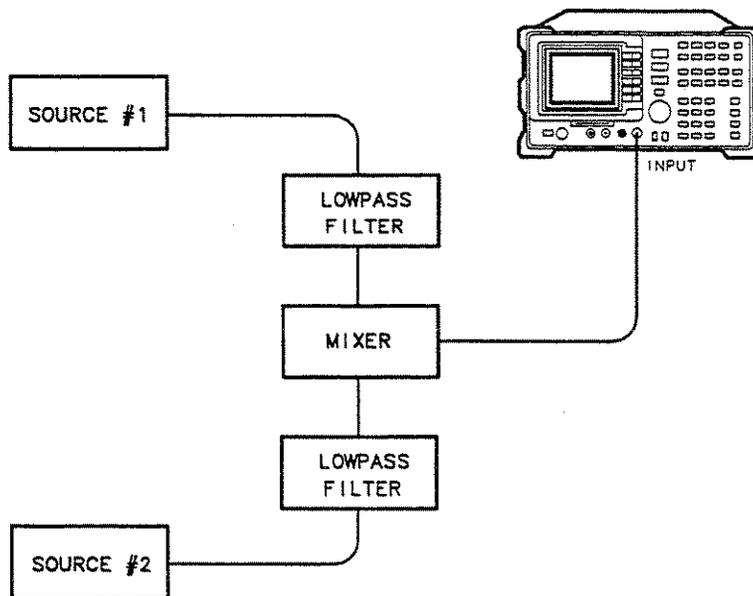

Figure 2-24. Third-Order Intermodulation Equipment Setup
1. Connect the equipment as shown in Figure 2-24.